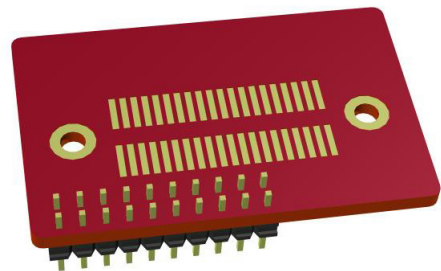

Figure 6 Secondary side of OWLAN211b
- Connectors J2 and J3 a 2x20-pin 1 mm pitch board-to-board (one piece part). The J2 and J3 connectors exist on the OWLAN211b module only as compression pads (see Figure 6).